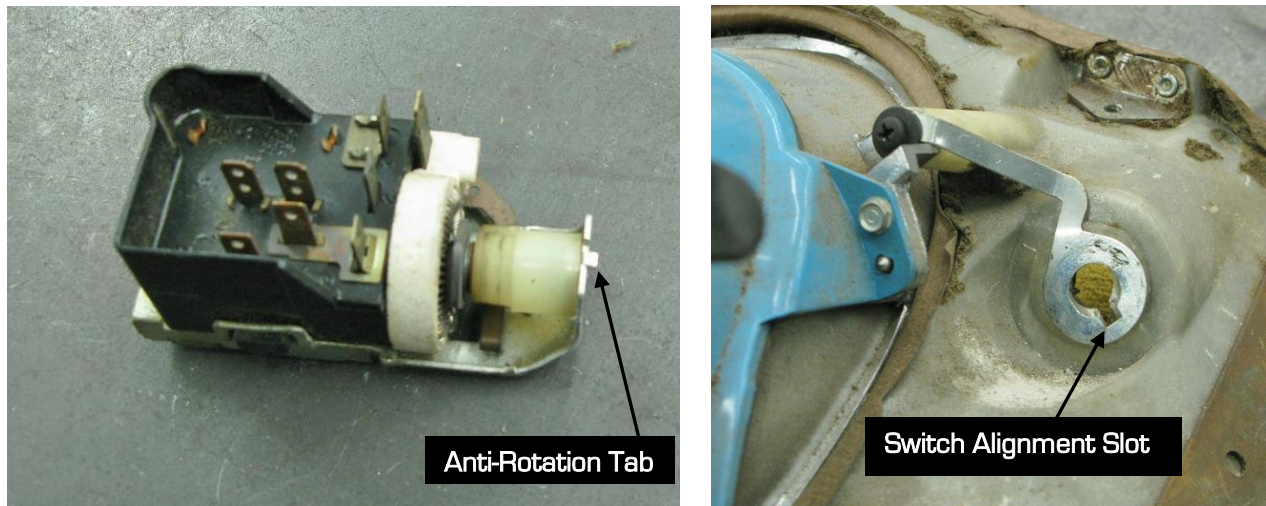

Figure 37 - Install Headlight Switch
44. Remove the headlight switch knob and reinstall the headlight switch into the dash. **NOTE:** Make sure the anti-rotation tab on the switch lines up with the alignment slot on the dash (Figure 37). Install the headlight switch retaining nut and install the headlight switch knob.